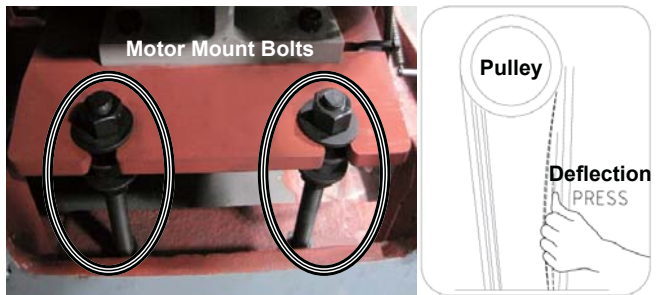

Figure 98. V-belt adjustment.
3. Turn the hex nuts on the motor mount bolts shown in Figure 98 to move the motor mount plate up or down and adjust the V-belt tension. When correctly tensioned, each belt should have about 19mm deflection when pressed firmly.